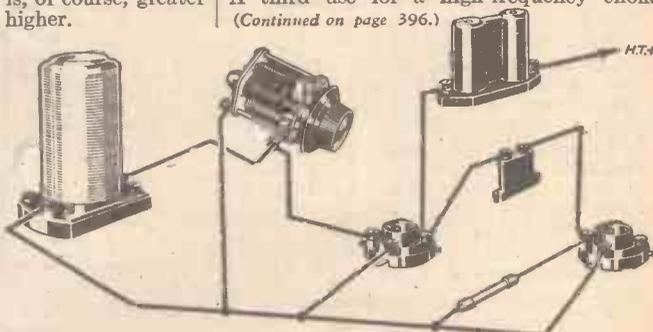

Fig. 2.—Aperiodic coupling between H.F. and detector stages.
Then a high-frequency choke is often used in the anode circuit of a high-frequency valve without a tuned grid coupling, in such sets as portables (see Fig 2). Its action is very similar to the first application except that the extra amplification obtainable with the tuned circuit is not achieved. A third use for a high-frequency choke
A circuit which includes the two refinements recommended is shown in Fig. 2, and for the assistance of
3.—A pictorial wiring diagram of the 2-valve circuit illustrated in Fig. 2.